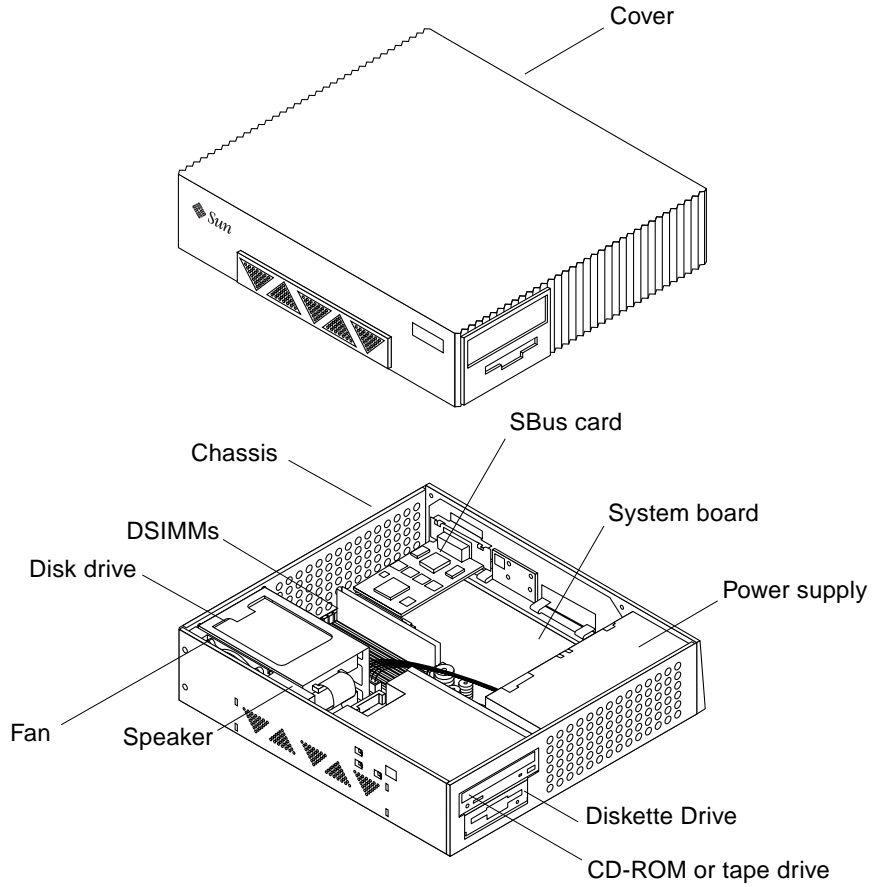

FIGURE 1-3 Top View of the System with the Cover Removed
- FIGURE 1-3 shows the top view of the system with the cover removed.